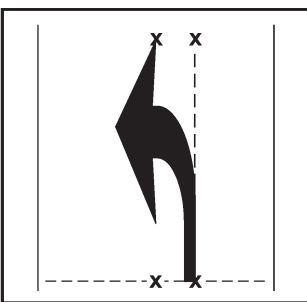

Figure 55
- Remove the liner from the top part of the top section of the arrow and lay it in place (see Figure 55).